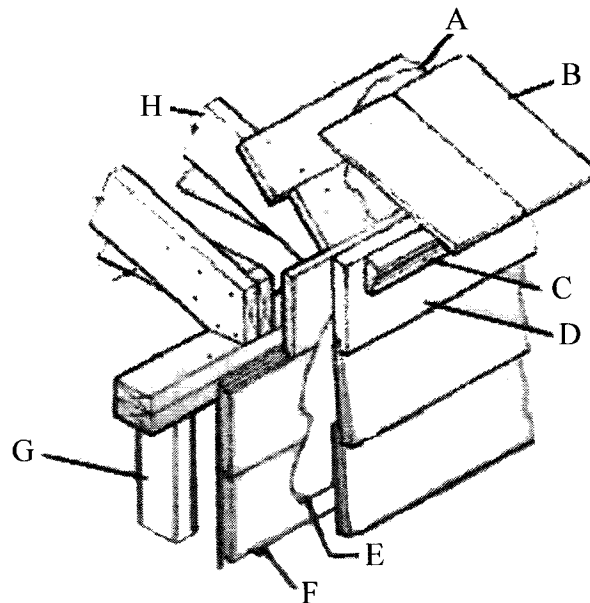

Figure 7
- (d) Figure 7 shows a pictorial drawing of a part sectional wall and roof section of a building drawing. Identify the parts labelled A through H. [4]